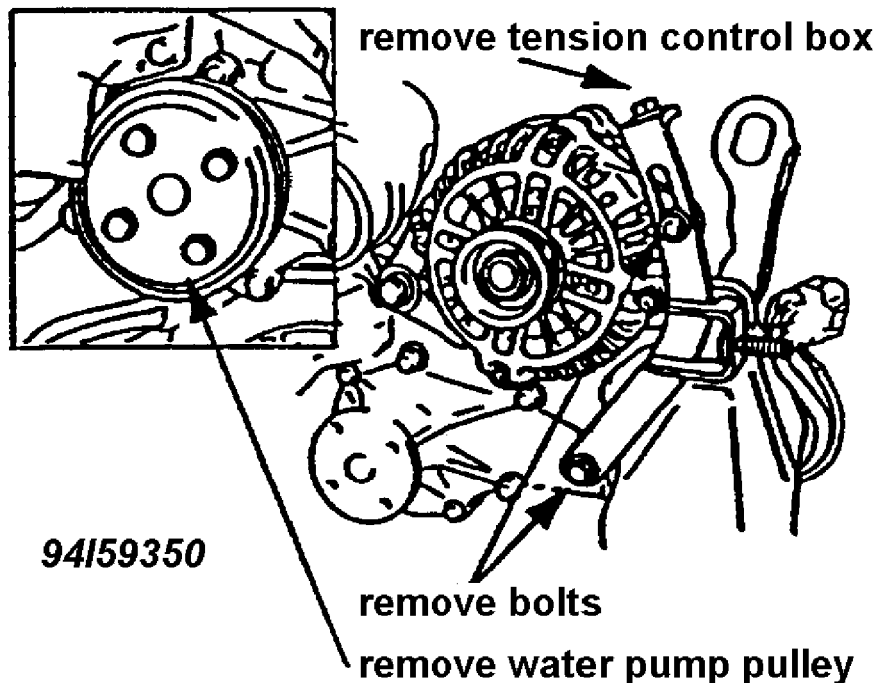

Fig. 67: Alternator Bracket & Water Pump Pulley
41. Remove the water pump pulley and alternator belt. See Fig. 67.
52. Install alternator bracket, pulley, and belt in reverse order of removal. See Fig. 67.